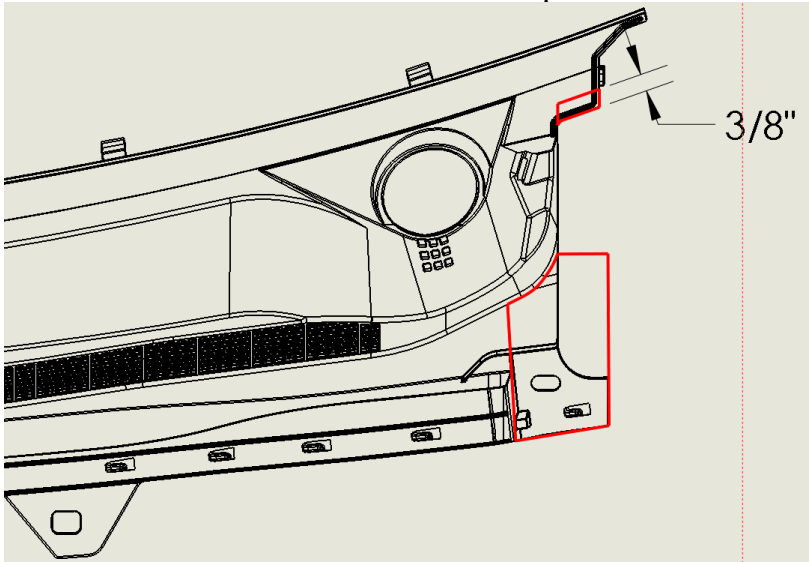

Fig 3
- b. Trim off the areas indicated with the red squares in **Fig 3** on the driver side of the cowl